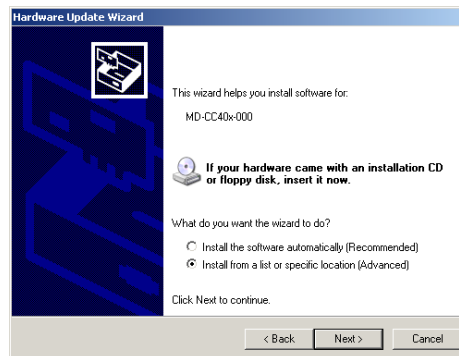

Figure D.8: Hardware Update Wizard Screen 2
- 5) Select “Install from a list or specific location (Advanced)” on the radio buttons in answer to the query “What do you want the wizard to do?” Click “Next” (Figure D.8).